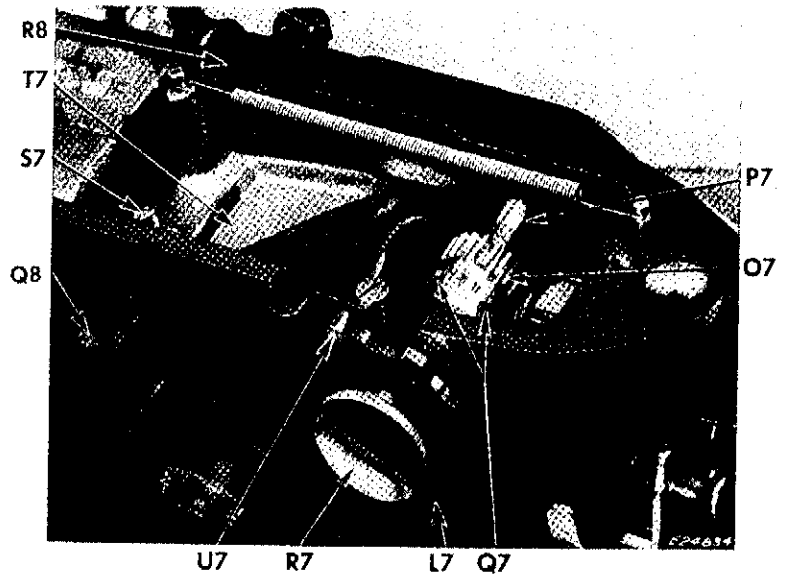

Fig. 73. Adjusting Arm Cross Shaft and FASHION Disc Stud
Turn FASHION disc **L7**, **Fig. 73** counter-clockwise as far as possible and apply pressure toward needle bar on collar **M7**.
To remove end play or binding in cross shaft **P7**, loosen two screws at **Q7**, **Fig. 73**.
To adjust the relationship of the FASHION disc follower frame stud **U7**, **Fig. 73** to the FASHION disc, loosen screw **S7** on collar.
2. Remove spring shown in **Fig. 73**.
7. Move frame **T7**, **Fig. 73** to front or rear of machine until stud **U7** is flush with outside edge of FASHION disc **L7**. Securely tighten screw **S7** when frame **T7** pivots freely on hinge pin **Q8**.
8. Replace spring shown in **Fig. 73**.
CAUTION: Do not loosen screws **Q7**, **Fig. 73** on arm cross shaft gear. If screws are loose, reset as instructed on **page 49**.